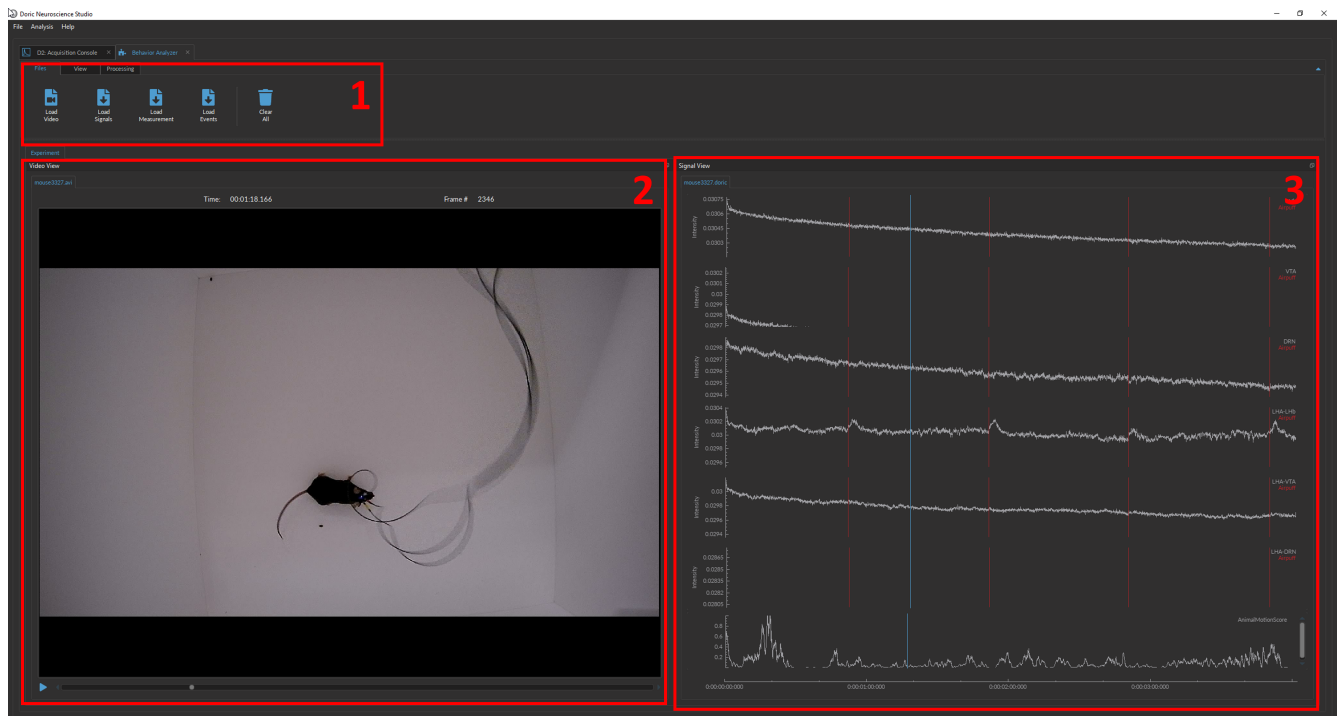

Figure 11.1: Behavior Analyzer Module Interface
The interface can be separated into three major sections (Fig 11.1):
1. The **Tabs** (Fig 11.1, 1) are used to access the controls, settings and functions of the module. These controls and settings are split into three tabs, which will be treated in the following sections:
2. The **Video View** (Fig 11.1, 2) displays the recorded footage and controls the frames displayed. The **Play** button on the bottom left runs the video. The scroll bar beside it can be used to choose a frame while the video is paused. See Section 11.4 for more details.
3. The **Signal View** (Fig 11.1) displays the raw traces associated with the video. The red bar over the traces corresponds to the timestamp of the associated frame of the video. See Section 11.5 for more details.